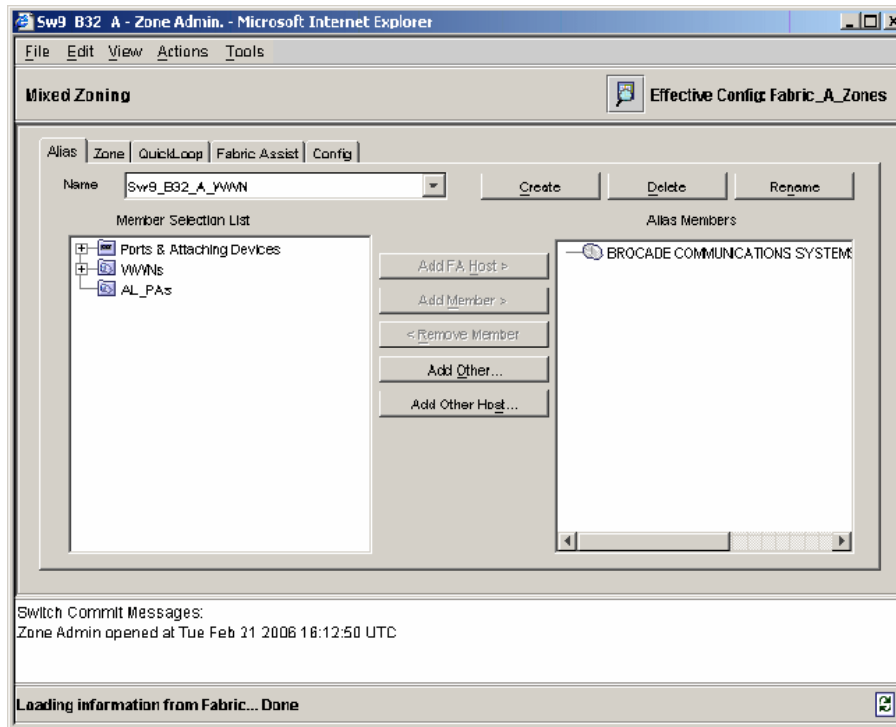

Figure 5-34 Zone Management window
2. While in the Alias tab (Figure 5-34), click **Create** to create an Alias with the name of the switch, for example, Sw9_B32_A. You will see the new Alias name in the window.